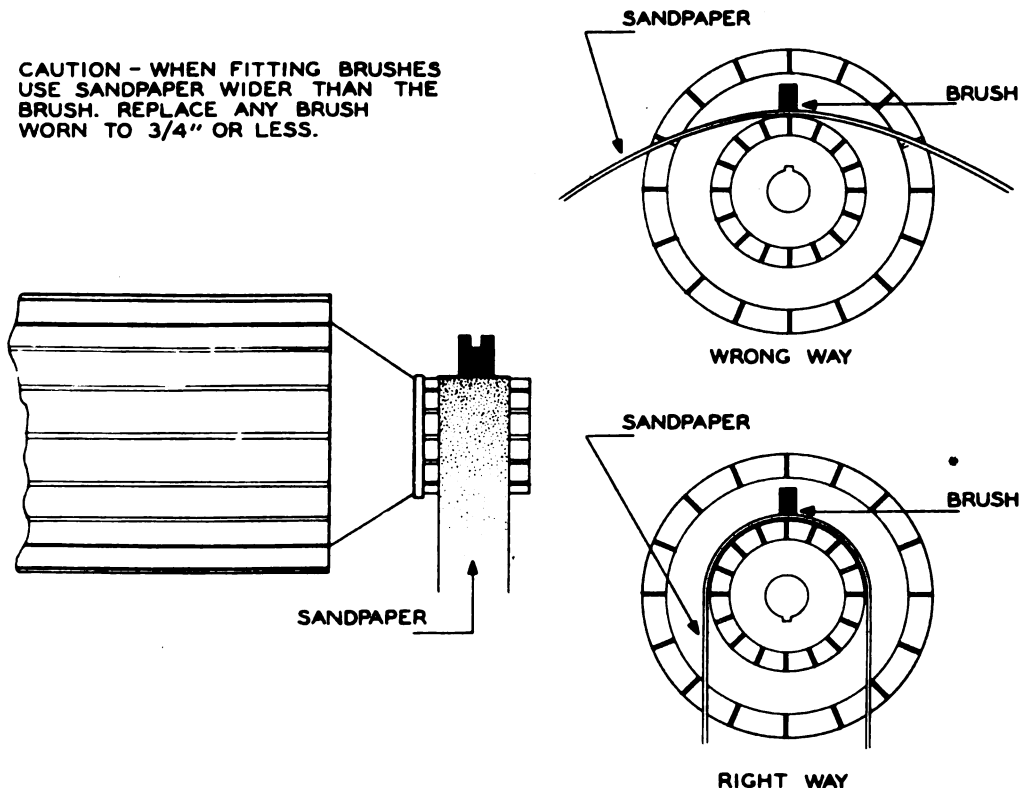

Figure 5-12. Fitting Brushes to Commutator
drawing a strip of No. 00 sandpaper around the commutator, sanded side out, while the brush rests on the sanded surface of the paper with normal spring tension. (See figure 5-12.) Make certain that the sandpaper contacts a large area of the commutator. Draw the sandpaper in the normal direction of the armature rotation. Raise the brush for the return stroke. Repeat until a proper seating surface is obtained.
(2) **COMMUTATOR.**—The commutator acquires a mahogany-colored surface after being in service a short time. If smooth, this surface requires no attention. Slight roughness may be corrected by holding a piece of No. 00 sandpaper against the surface while the armature is revolving slowly. Brushes should be lifted in their holders while the commutator is being sanded. A badly worn, burned, or pitted commutator will require refinishing in a lathe. Whenever the copper bars have worn down flush with the mica insulation which is between the bars, the mica must be undercut  $1/32$  inch as shown in figure 5-12. After this operation, inspect the commutator thoroughly to see that there are no metal particles between the copper bars, for if the plant is started with the commutator shorted in this manner, it will burn out the armature winding.